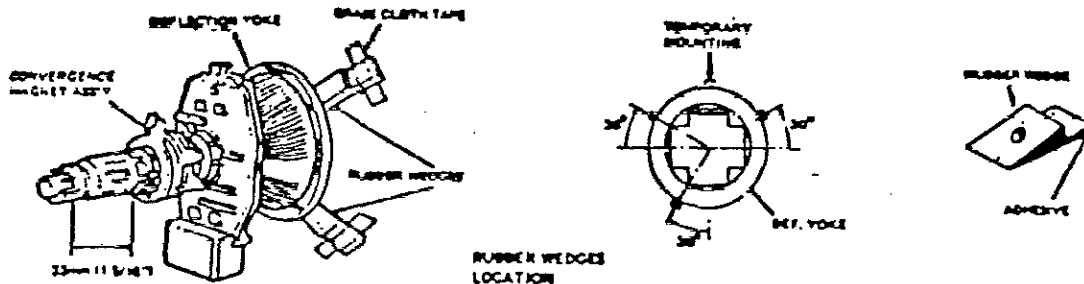

FIG. 11
Convergence Magnet Assembly and Rubber Wedges need mechanical positioning as shown in Fig 11.
- 9) Stick 3 grass cloth tapes on wedges as shown in Fig 11.